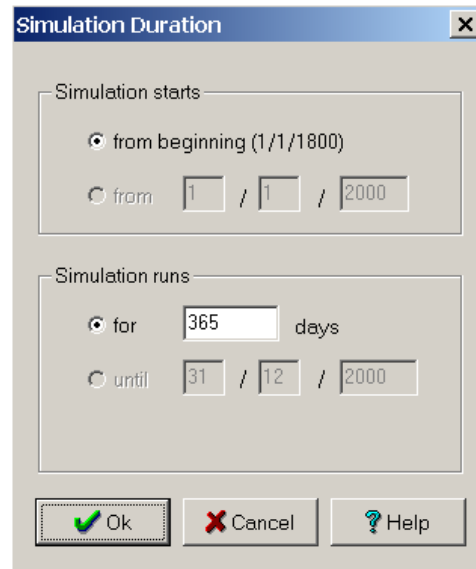

Figure 1-14 The “Simulation Duration” dialog box
3. Check the “**Simulation Duration**” selection box is set to the defaults shown in Figure 1-14